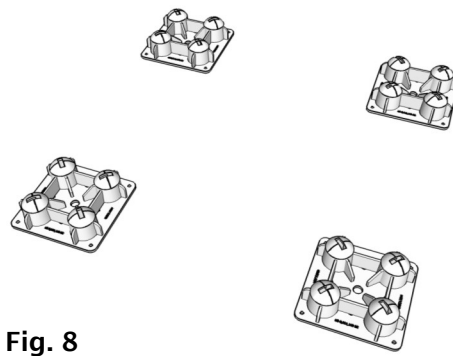

Fig. 8
Place 3 additional Piers (A) on grade and locate them with the Pier Template (F). (Fig. 8 & 9)